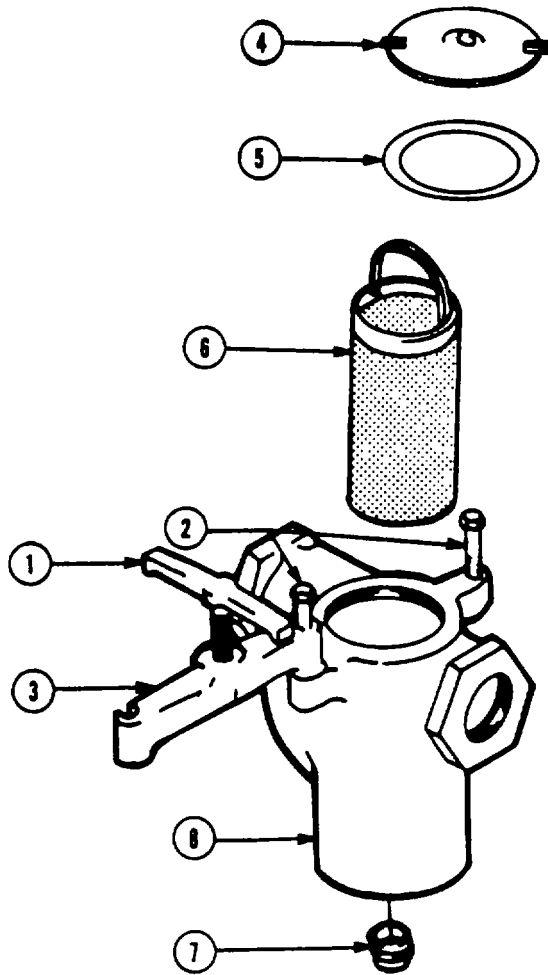

Figure 3-12. Backwash Pump Strainer
**3-6. BACKWASH PUMP STRAINER** (refer to fig. 3-12).
- (1) Shut down ROWPU in normal manner (para. 2-31).
- (2) Loosen T-handle screw assembly (1) by turning to the left to release pressure on the strainer cap (4).
- (3) Loosen the two bolts (2) and swing the yoke (3) and the T-handle out of the way as shown.
- (4) Using the two ears on the strainer cap (4), twist back and forth until it loosens and lifts off the strainer housing (8).
- (5) Remove the gasket (5) and discard if it is damaged or unserviceable.
- (6) Lift handle on strainer screen (6) and remove screen from the strainer housing (8).
- (7) Remove drain plug (7) from the bottom of strainer housing.